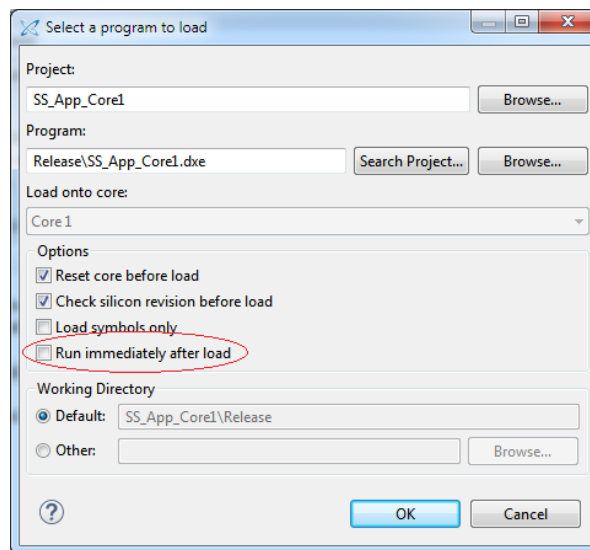

Figure 15: Select a program to load window
7. Double click on ‘SS_App_Core1.dxe’ of Core 1 and uncheck ‘*Run immediately after load*’ option as shown in the Figure 15. Repeat the same for ‘SS_App_Core2.dxe’ for Core 2.